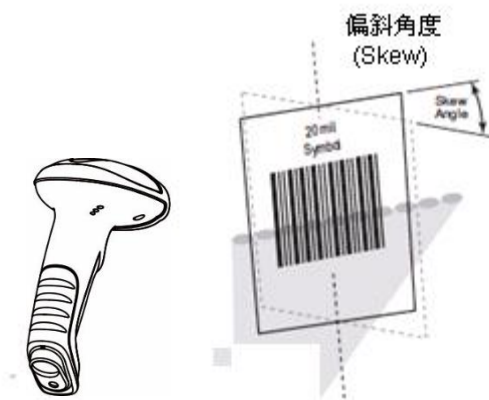

Fig. 1-13
- ✧ Skew: $\pm 75^\circ$, 0° Roll and 0° Pitch (Fig. 1-13)